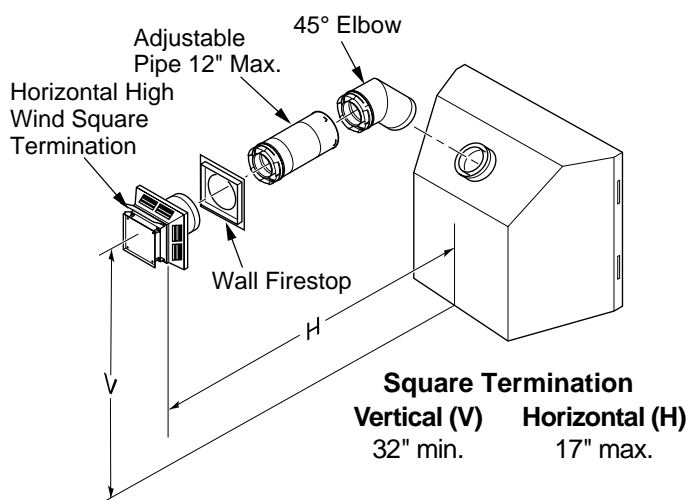

Figure 14 - Horizontal Termination Configuration for Square and Round Terminations
IMPORTANT: Horizontal square terminations require only inner portion of wall firestop. Horizontal installations using round termination require exterior portion of wall firestop available only in vent kit HTK (see Figure 14, page 10).
1. Set the fireplace in its desired location and determine the route your horizontal venting will take. Do not secure the fireplace until all venting has been installed. Some installations require sliding the fireplace in and out of position to make final venting connections. Figures 14 through 18 on pages 10 through 12 show different configurations for venting with horizontal termination that will help you decide which application best suits your installation. Check to see if wall studs or roof rafters are in the path of your desired venting route. If they are, you may want to adjust the location of the fireplace.
Figures 14 through 18 show different configurations and alternatives for venting with horizontal termination. Each figure includes a chart with critical minimum and maximum dimensions which **MUST** be met. **IMPORTANT:** Remember that a horizontal run of venting must have a 1/4" rise for every 12" of run toward the termination.